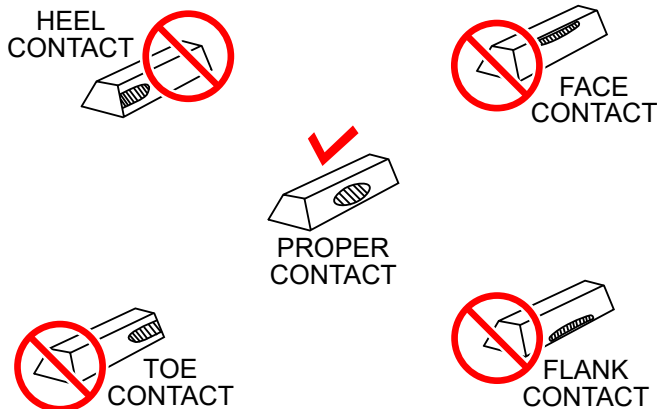

Figure 44. Gear Teeth Alignment
3. If the gear teeth are not contacting properly (Figure 44), adjust the pillow block to correct the problem.